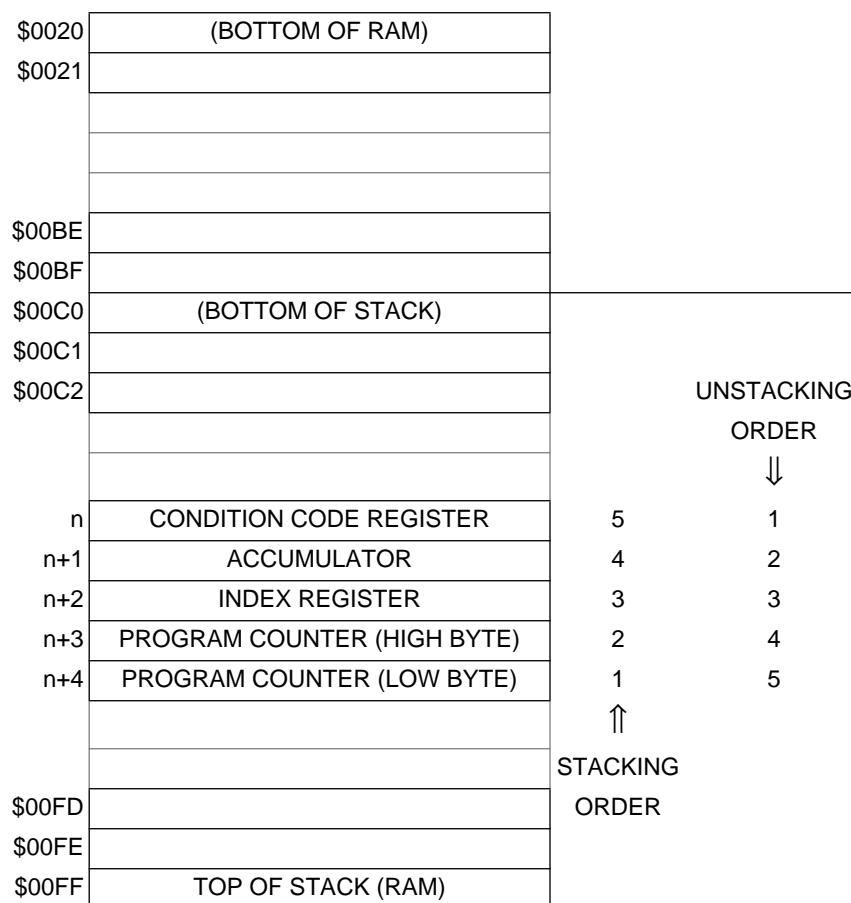
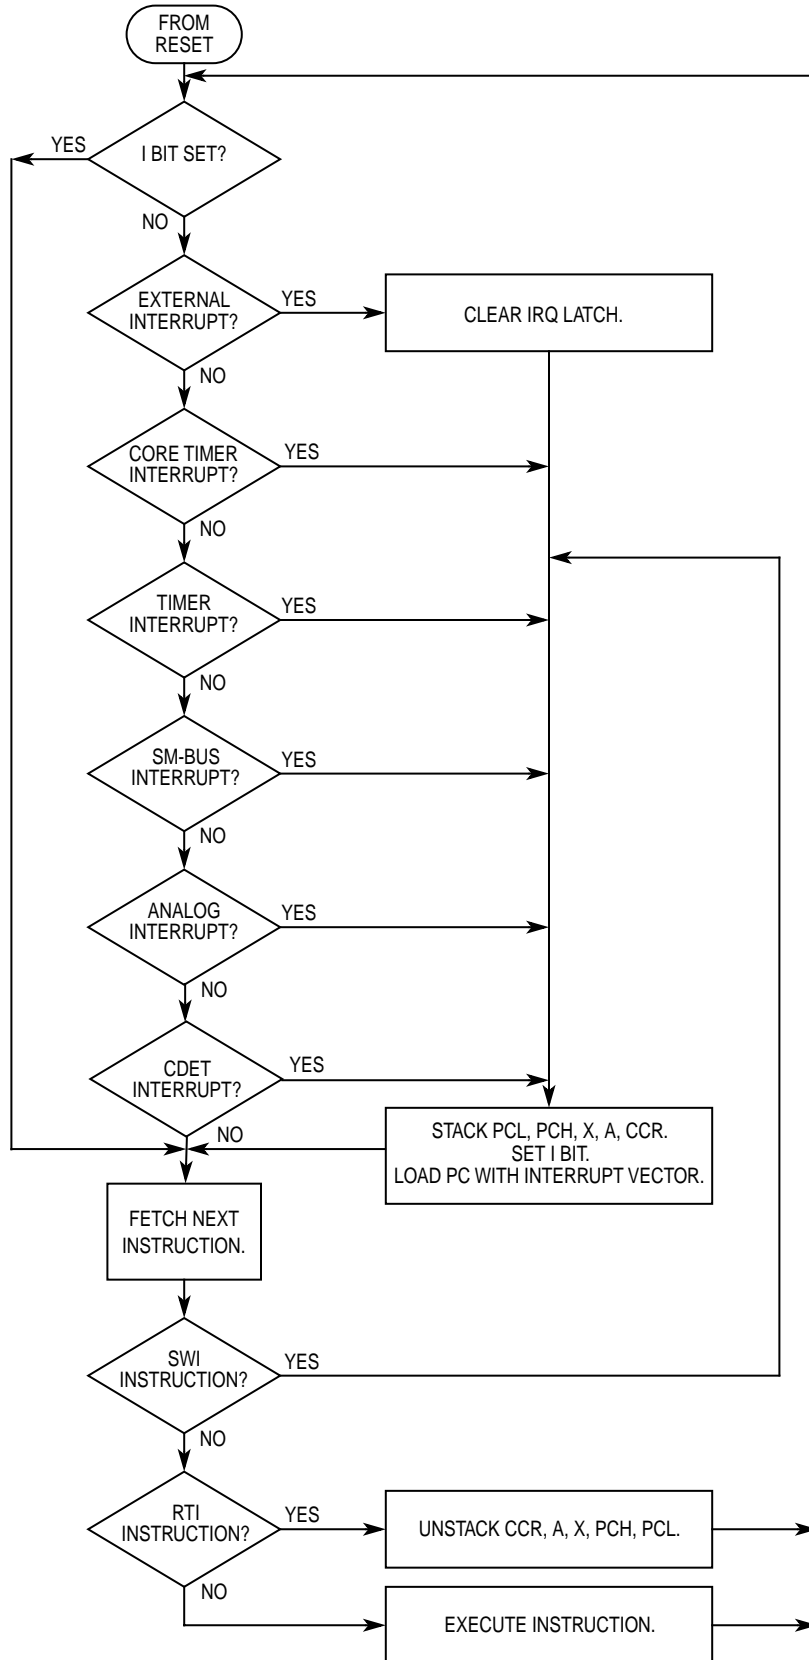

Figure 4-1. Interrupt Stacking Order
Figure 4-2. Interrupt Flow Chart
- Stores the CPU registers on the stack in the order shown in **Figure 4-1**.
The return from interrupt (RTI) instruction causes the CPU to recover its register contents from the stack as shown in **Figure 4-1**. The sequence of events caused by an interrupt are shown in the flow chart in **Figure 4-2**.